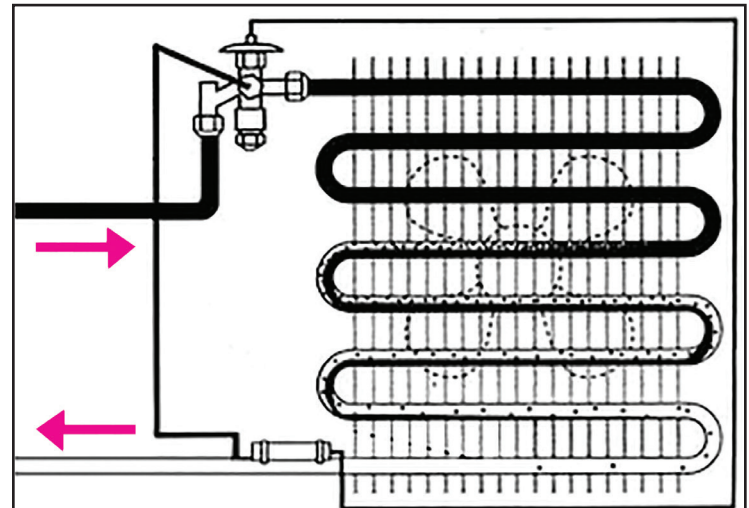

Figure 10: TXV Sensing Bulb Location
1. Install the TXV bulb on the suction line just outside the air handler cabinet (See Figure 10) using the two bulb clamps furnished with kit.